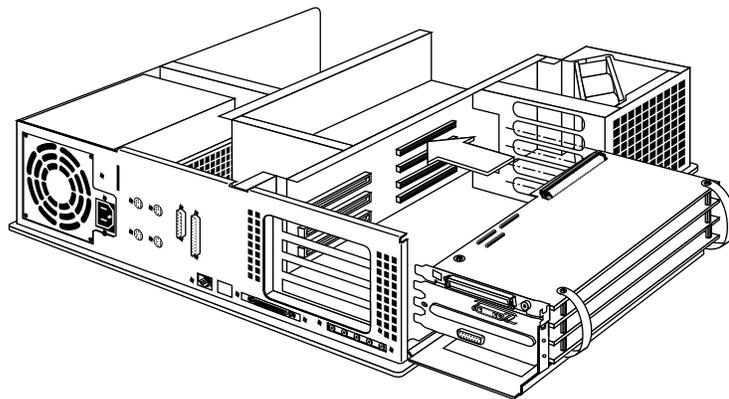

Figure 1-33 Aligning the Board Set With the Chassis
- Align the metal extensions on the left of the board set with the slots in the chassis, and at the same time align the right edges of the board set with the metal grooves in the chassis, as shown in Figure 1-33.